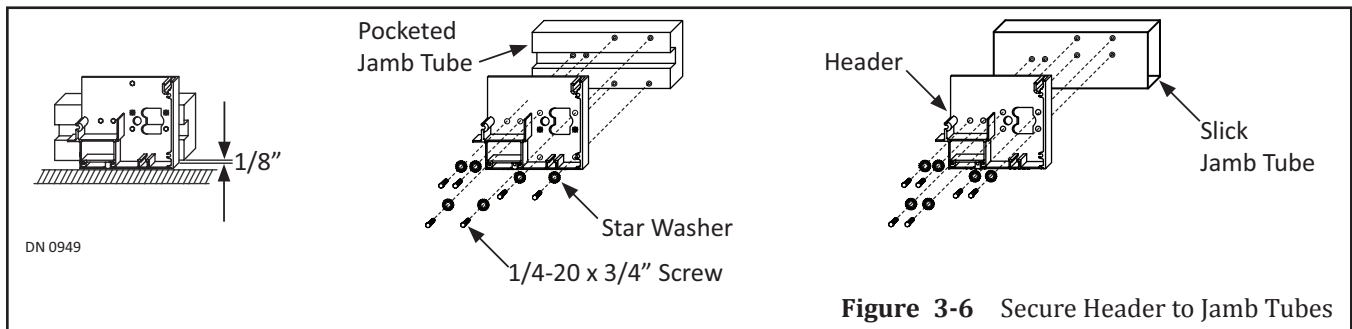

Figure 3-6 Secure Header to Jamb Tubes
1. Obtain (12) 1/4-20 x 3/4 inch bolts and (12) 1/4 inch Star Washers provided by NABCO. Set aside.
2. Measure to ensure each side of Jamb Tube facing the floor is lifted 1/8 inch from the floor (once secured to Jamb Tube). Please see Figure 3-6.